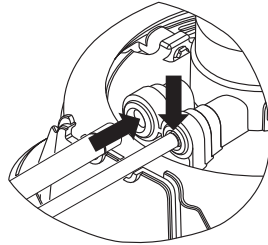

Fig. 44
14. **Reinsert each tube** into the proper locations on the Bracket. **Insert** tubes until they meet the marks or the marks disappear (Fig. 44).